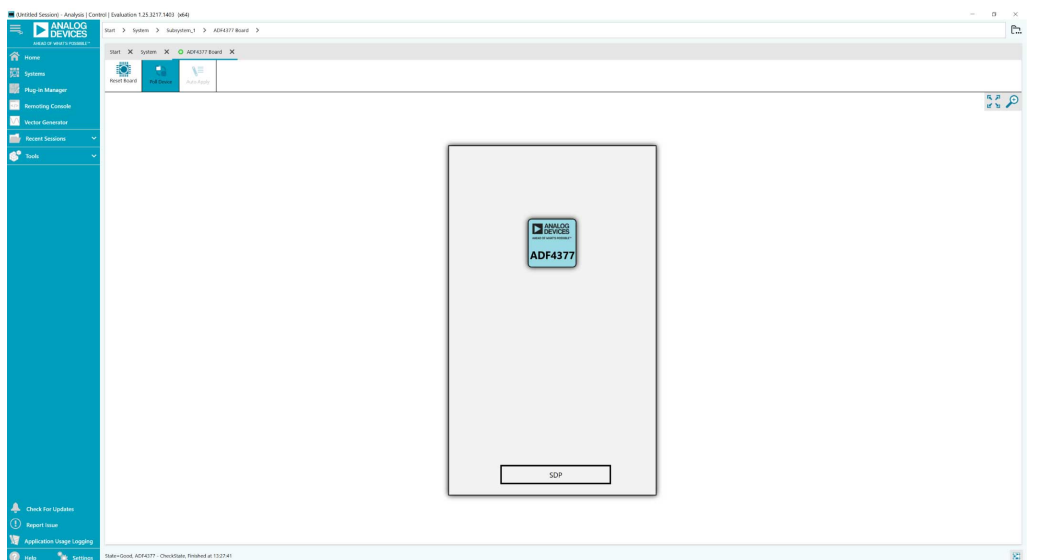
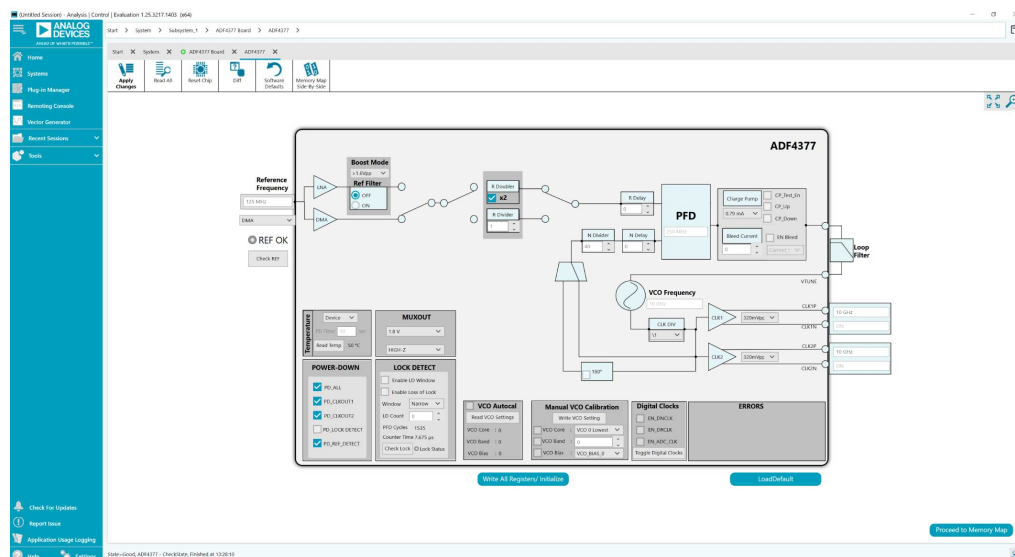

Figure 4. ACE Board Page, Device Selection
Figure 5. Main Page
All components necessary for local oscillator (LO) generation are installed on the EV-ADF4377SD1Z. The EV-ADF4377SD1Z is shipped with a 125 MHz crystal oscillator (XO), the ADF4377 synthesizer with an integrated VCO, and a 650 kHz loop filter (charge pump current ( $I_{CP}$ ) = 11.1 mA) at 10 GHz. When the EV-ADF4377SD1Z is powered-up and connected to the ACE software, clicking the **LoadDefault** and **Write All Registers/ Initialize** buttons, shown in Figure 5, provides a 10 GHz output clock on both clock output channels.
2. Double-click the **ADF4377 Board** button, and the tab shown in Figure 4 appears.
3. Double-click the **ADF4377** button that appears in Figure 4 to open the main control window shown in Figure 5.
The main controls are available in the high level register map, shown in Figure 5. To modify registers, perform the following steps:
Run the software and follow the steps shown in the Evaluation Board Software section to open the main page as shown in Figure 5.